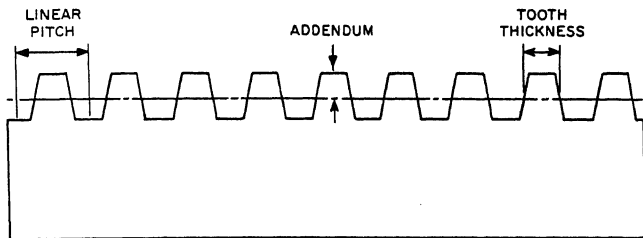

Figure AIII-2.—Linear pitch.
d. Linear Pitch (LP)
- (1) The linear pitch is the same as the circular pitch except that it is the lineal measurement of pitch on a gear rack.
- (2) $CP = LP$
- (3) Figure AIII-2 illustrates linear pitch.